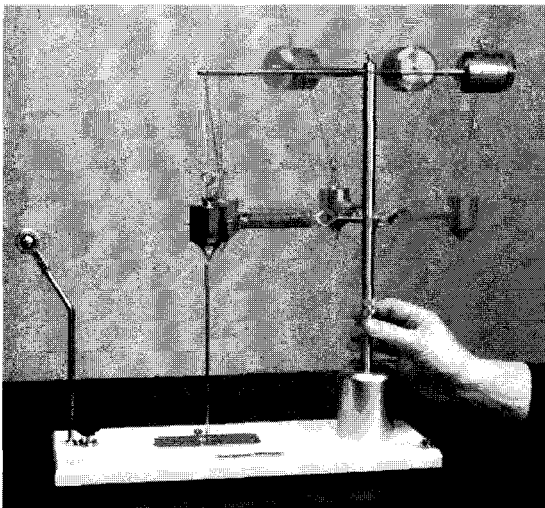

Figure 16-3 Centripetal force apparatus. (Photo by Sargent-Welch Scientific Co.)
2. Hang the bob from the cross arm by its support strings (Figure 16-3). Adjust the position of the pointer to its closest position to the rotating shaft for the minimum value of R . Loosen the screw holding the cross arm in the rotating shaft and adjust its position until the tip of the bob is precisely above the tip of the pointer. The tip of the bob should be about 1 mm above the pointer. Measure the distance from the center of the pointer to the center of the rotating shaft. Record this value as R in the Data Table.